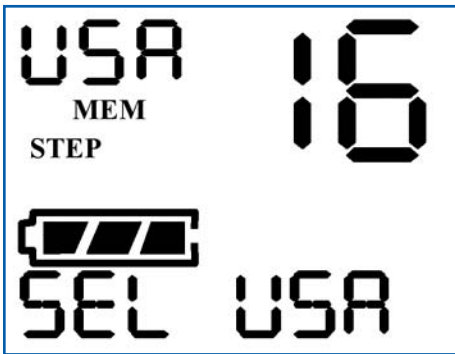

Fig. 6a: Selecting USA Mode
- When Country Mode is changed, Channel 16 is automatically selected, not the last channel used. (Fig. 6a–6c)